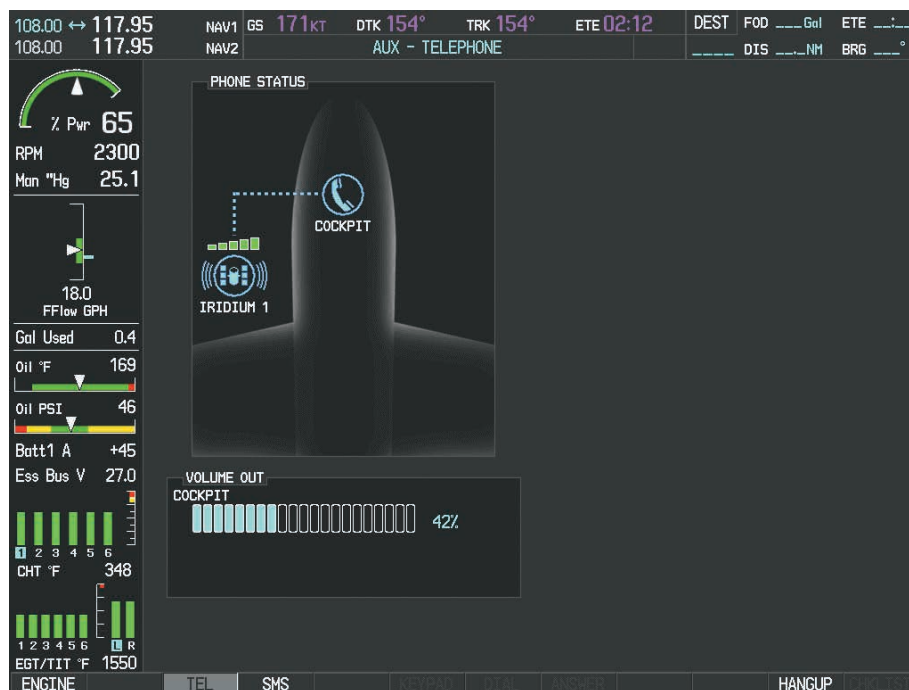

Figure 8-91 System is Making the Connection
- 5) Press the **ENT** Key. The system will begin calling the number, as in Figure 8-91.